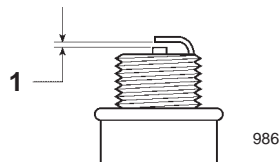

Figure 24
4. Set the gap on the new plug to 0.020 in. (0.50 mm) (Fig. 24).